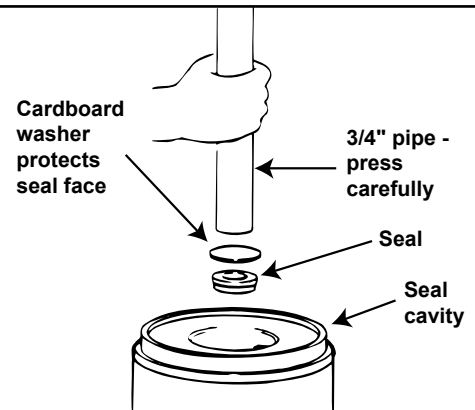

Figure 7 - If necessary, press with cardboard and pipe.
3. If seal does not seat squarely, remove and reclean the seal cavity. Place a cardboard washer over the polished seal face and carefully press into place using a piece of pipe or tubing (see Figure 7). Discard cardboard washer.